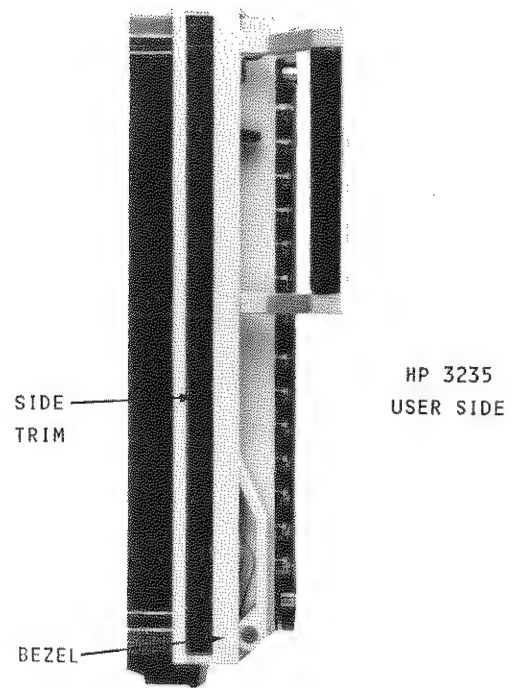

Figure 50. Remove Side Trim From Bezel.
2. Refer to Figure 50. Remove the side trim from the frame bezel.